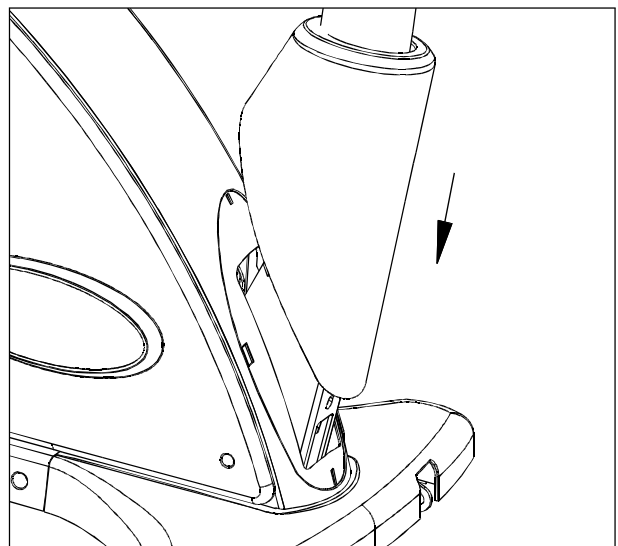

Fig.6
- ④ Place the pedestal cover in place to meet the top cover as shown in Figure 6.